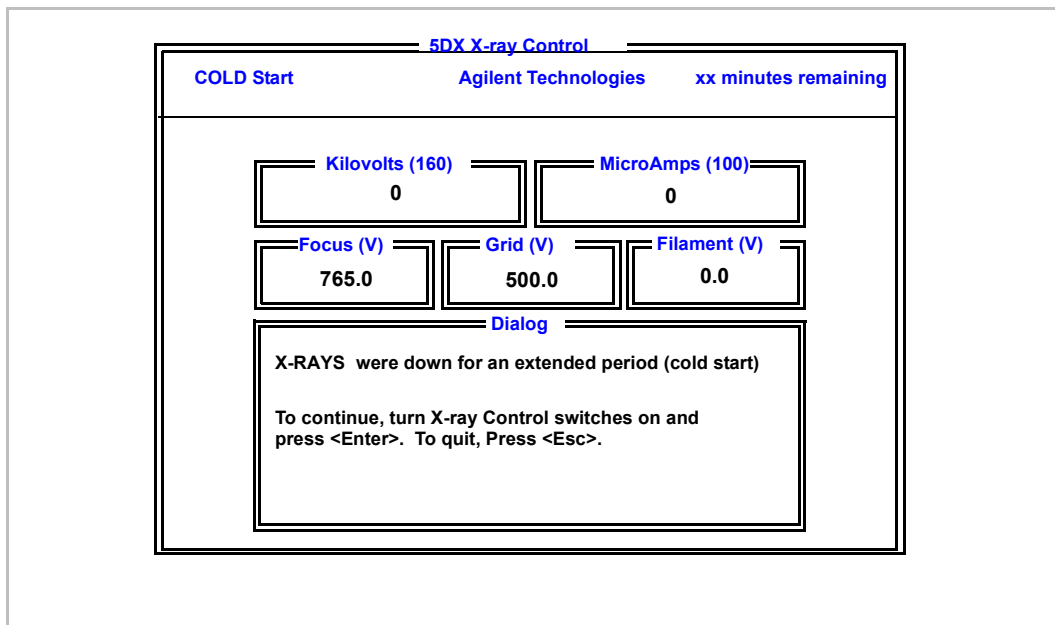

Figure 16 X-ray Start-up Screen
7. **X-ray Start-up** - The system should now bring up a start-up screen similar to Figure 16. Press **Esc** to exit X-ray Startup, since you don't want to bring up X-rays yet. Panel Handling should be verified before X-rays are turned on.